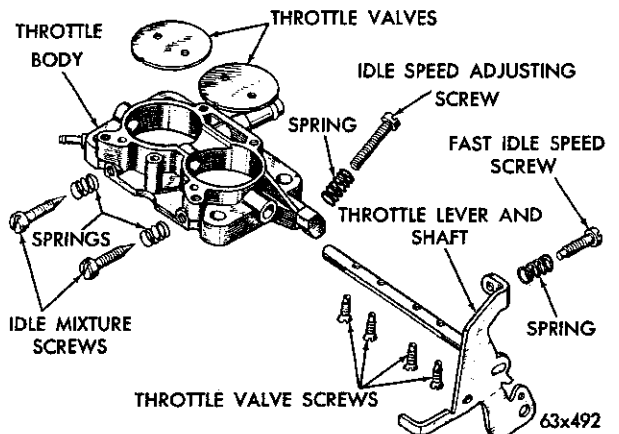

Fig. 10—Throttle Body (Disassembled View)
(3) Mark the valves to be sure each is replaced in the same bore from where removed (if replacing throttle shaft only. Fig. 10.)
(4) Remove the screws that hold the throttle valves to the shaft. Slide the valves out of shaft and bore.